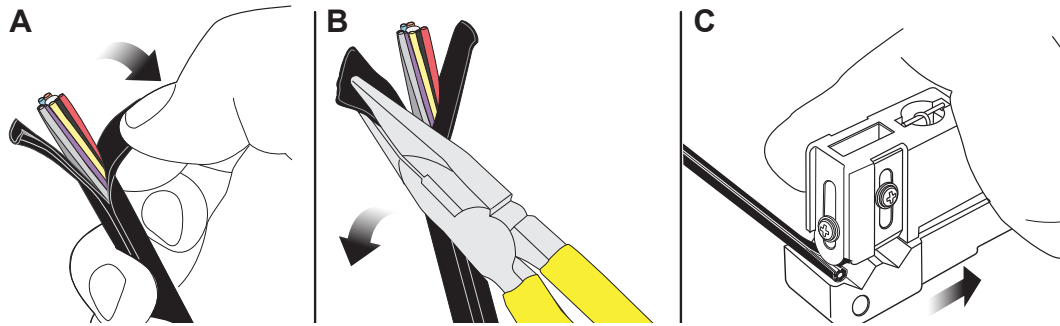

Figure 5
**Step 6:** With your fingers (Figure 5A) or needle-nose pliers (Figure 5B), remove the split pieces of outer jacket at the end of the cable (Figure 5). Continue to remove the jacket by pulling both sides to ring cut. An alternate method is to pull the Ideal® tool away from the cable enabling the round blade to pull out the jacket (Figure 5C).
**Step 4:** After the last 1-in cut, either use fingers, needle-nose pliers, sheath knife, or Ideal tool round blade to pull jacket away from cable. See Figure 5.